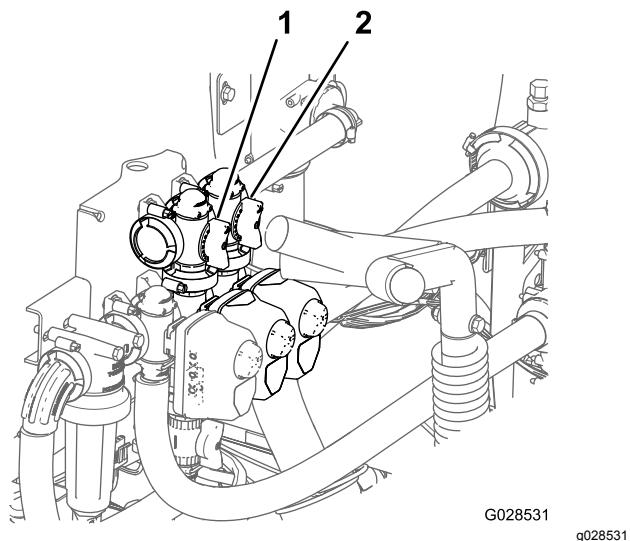

Figure 76
11. Adjust the agitation bypass valve (Figure 76) on the backside of the agitation valve until the pressure reading on the gauge is 6.9 bar (100 psi).
8. Adjust the master boom bypass handle to control the amount of agitation occurring in the tank (Figure 76).